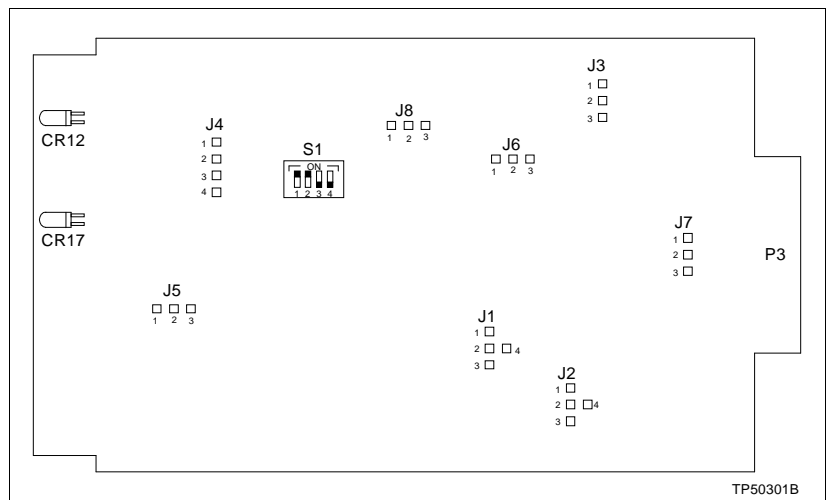

Figure 3-4. Bus Monitor Module, Switch S1 and Jumpers J1 through J8
Before mounting the bus monitor module (IEPEP03 Power Entry Panel only), set switch S1 and jumpers J1 through J8. Figure 3-4 shows the switch and jumper locations on the bus monitor module circuit board. Refer to Table 3-1 for the bus monitor module switch settings. Refer to Table 3-2 for the bus monitor module jumper settings.
1. Do not enable all inputs simultaneously. Doing so will cause a bad status signal. Unused monitor inputs must be disabled. Figure 3-4 shows the factory settings of switch S1.